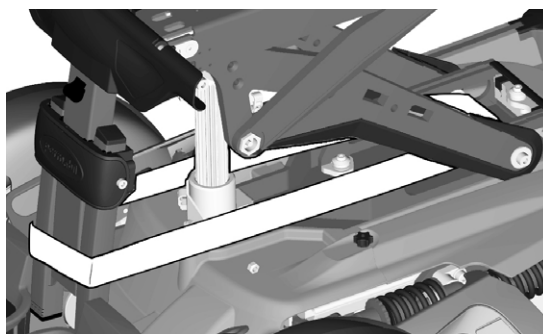

Figure 130. Remove the strap earlier assembled between the legrest and the AP Elevator axle.
8. Remove the strap earlier assembled between the leg rest and the AP Elevator axle. See fig. 130.